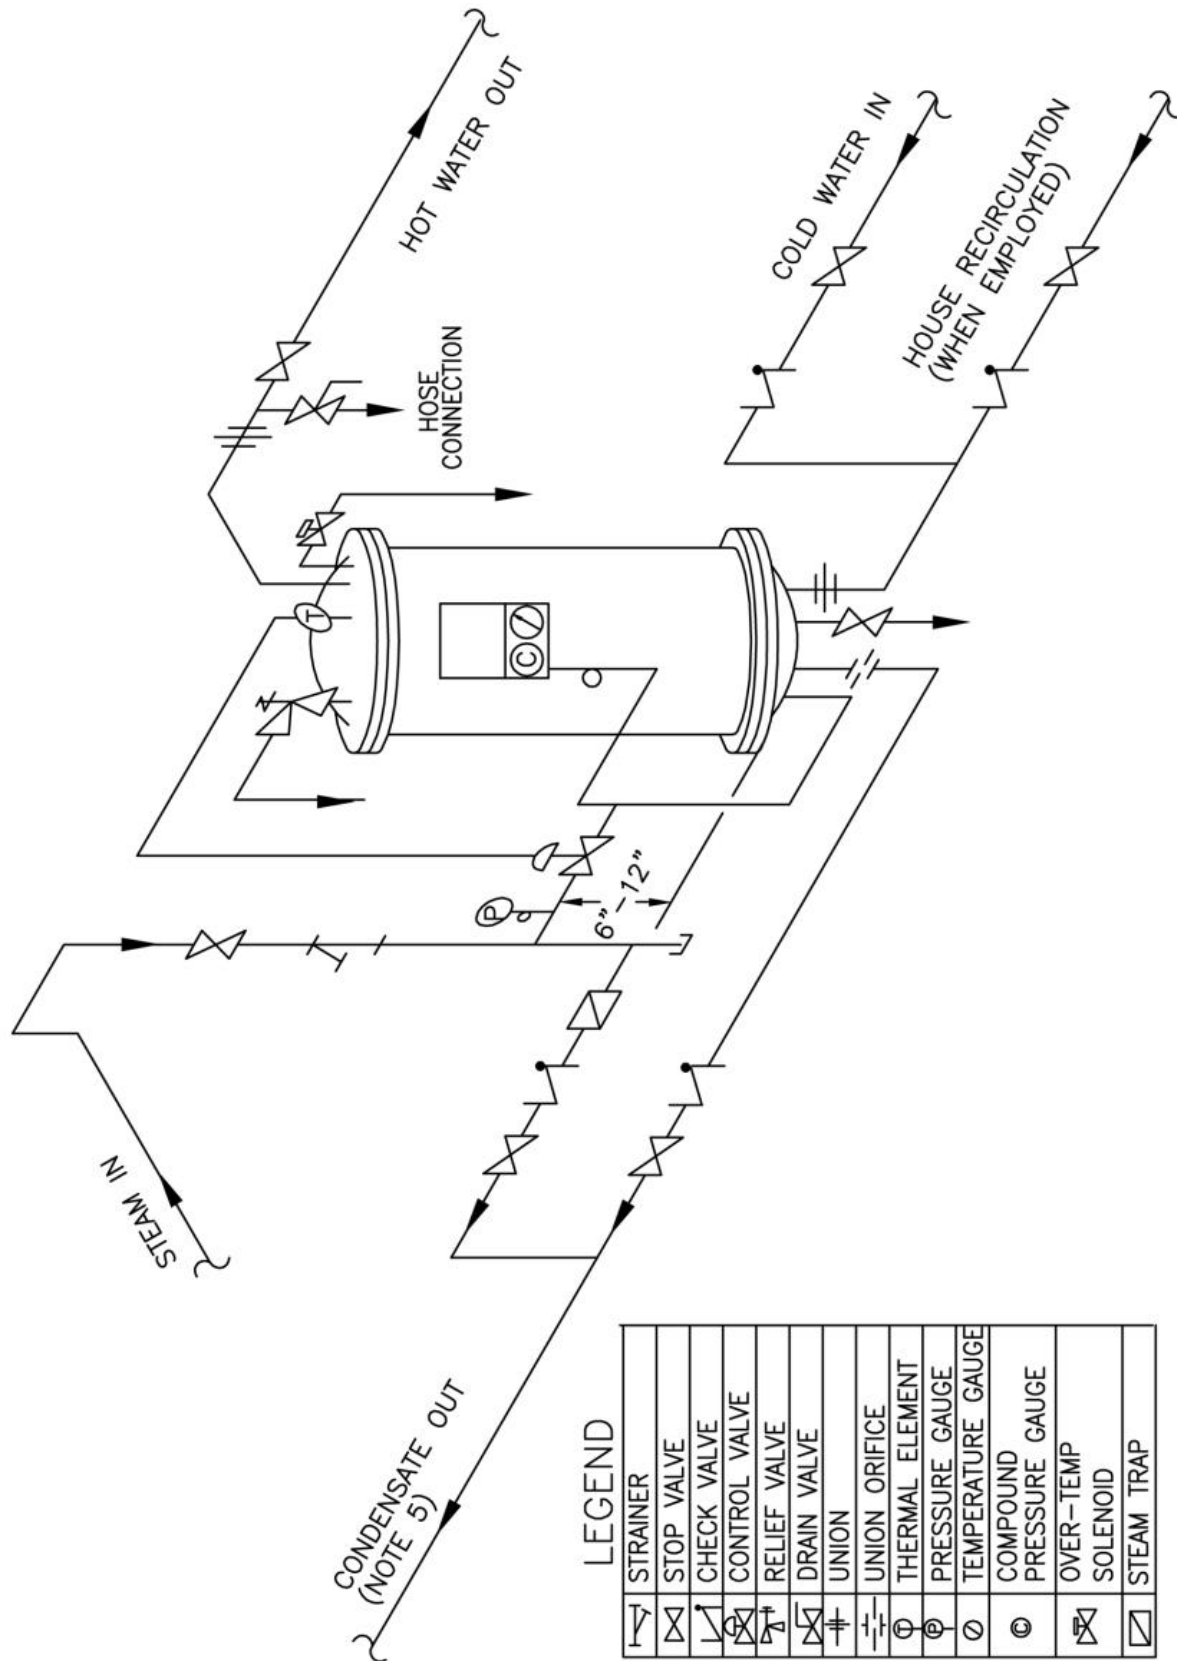

Figure 3 – Piping Connections for a Single Heater
Stop valves, check valves, strainers, unions or flanges, and other piping and fittings as shown in Figures 3 through 6 – are to be furnished by USER.
- a) Single Heater – Figure 3
- d)** Include all of the stop valves, check valves, steam traps, and other elements in the piping as shown in Figure 3, 4, 5, or 6, or as separately specified by AERCO. Note that the check valve shown at the Heater in the Condensate return line is furnished in the piping package assembly by AERCO.